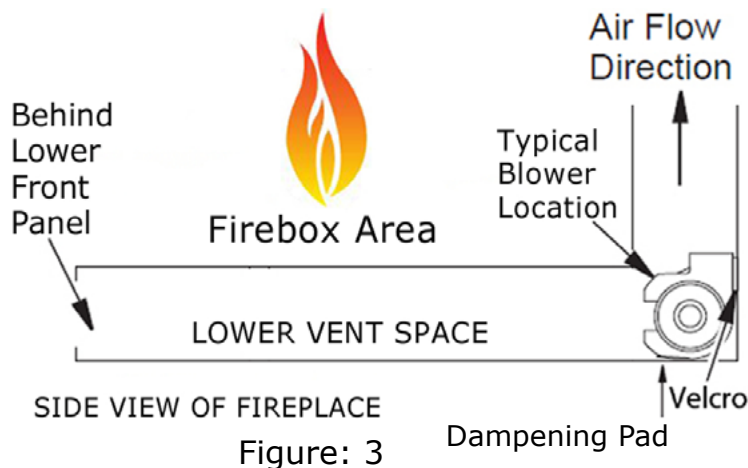

Figure: 3
Step 3: Under Firebox, wipe off area where the Fan will be mounted, this will allow velcro to take hold. Look for bracket mounting tabs. (Figures: 3,4,5 &6)